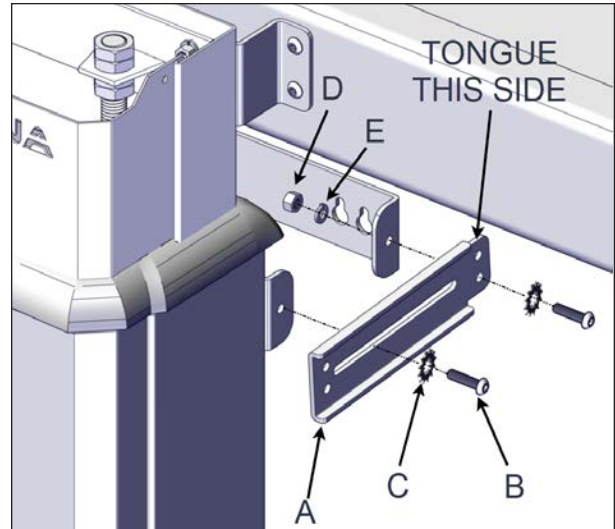

FIGURE 78: MOUNT BRACKET ARM INSTALLATION
23. Attach the top mount bracket arms to the tub mount brackets using the 1/4" x 1" socket head screws, 1/4" int./ext. tooth lockwashers on the outside. Use a 1/4" lock washer and 1/4" nut on the inside. Use a 5/32" (4 mm) drive and 7/16" (11 mm) spanner, Figure 78 and Figure 79.
The rounded tongue section of the bracket should always be mounted on the spa side, see Figure 78.